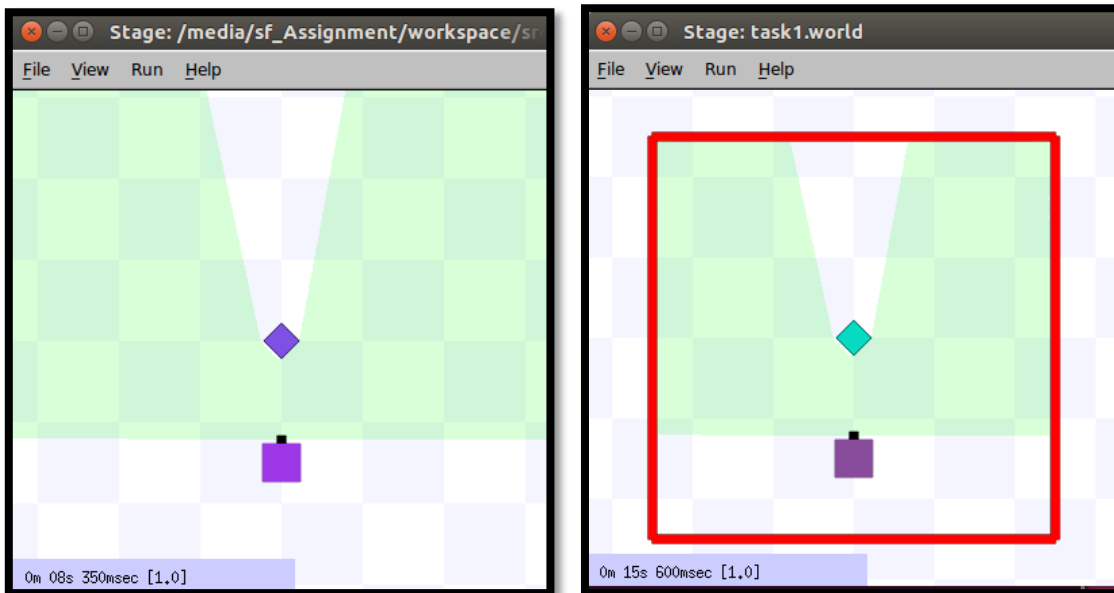

Figure 2: Task 1 simulation example
- 1.1. The object will be placed in front of the robot such that all sides can be seen (i.e. 45 degrees rotation) see Figure 2. The object identification has to work when there are walls as well as when there are no wall.